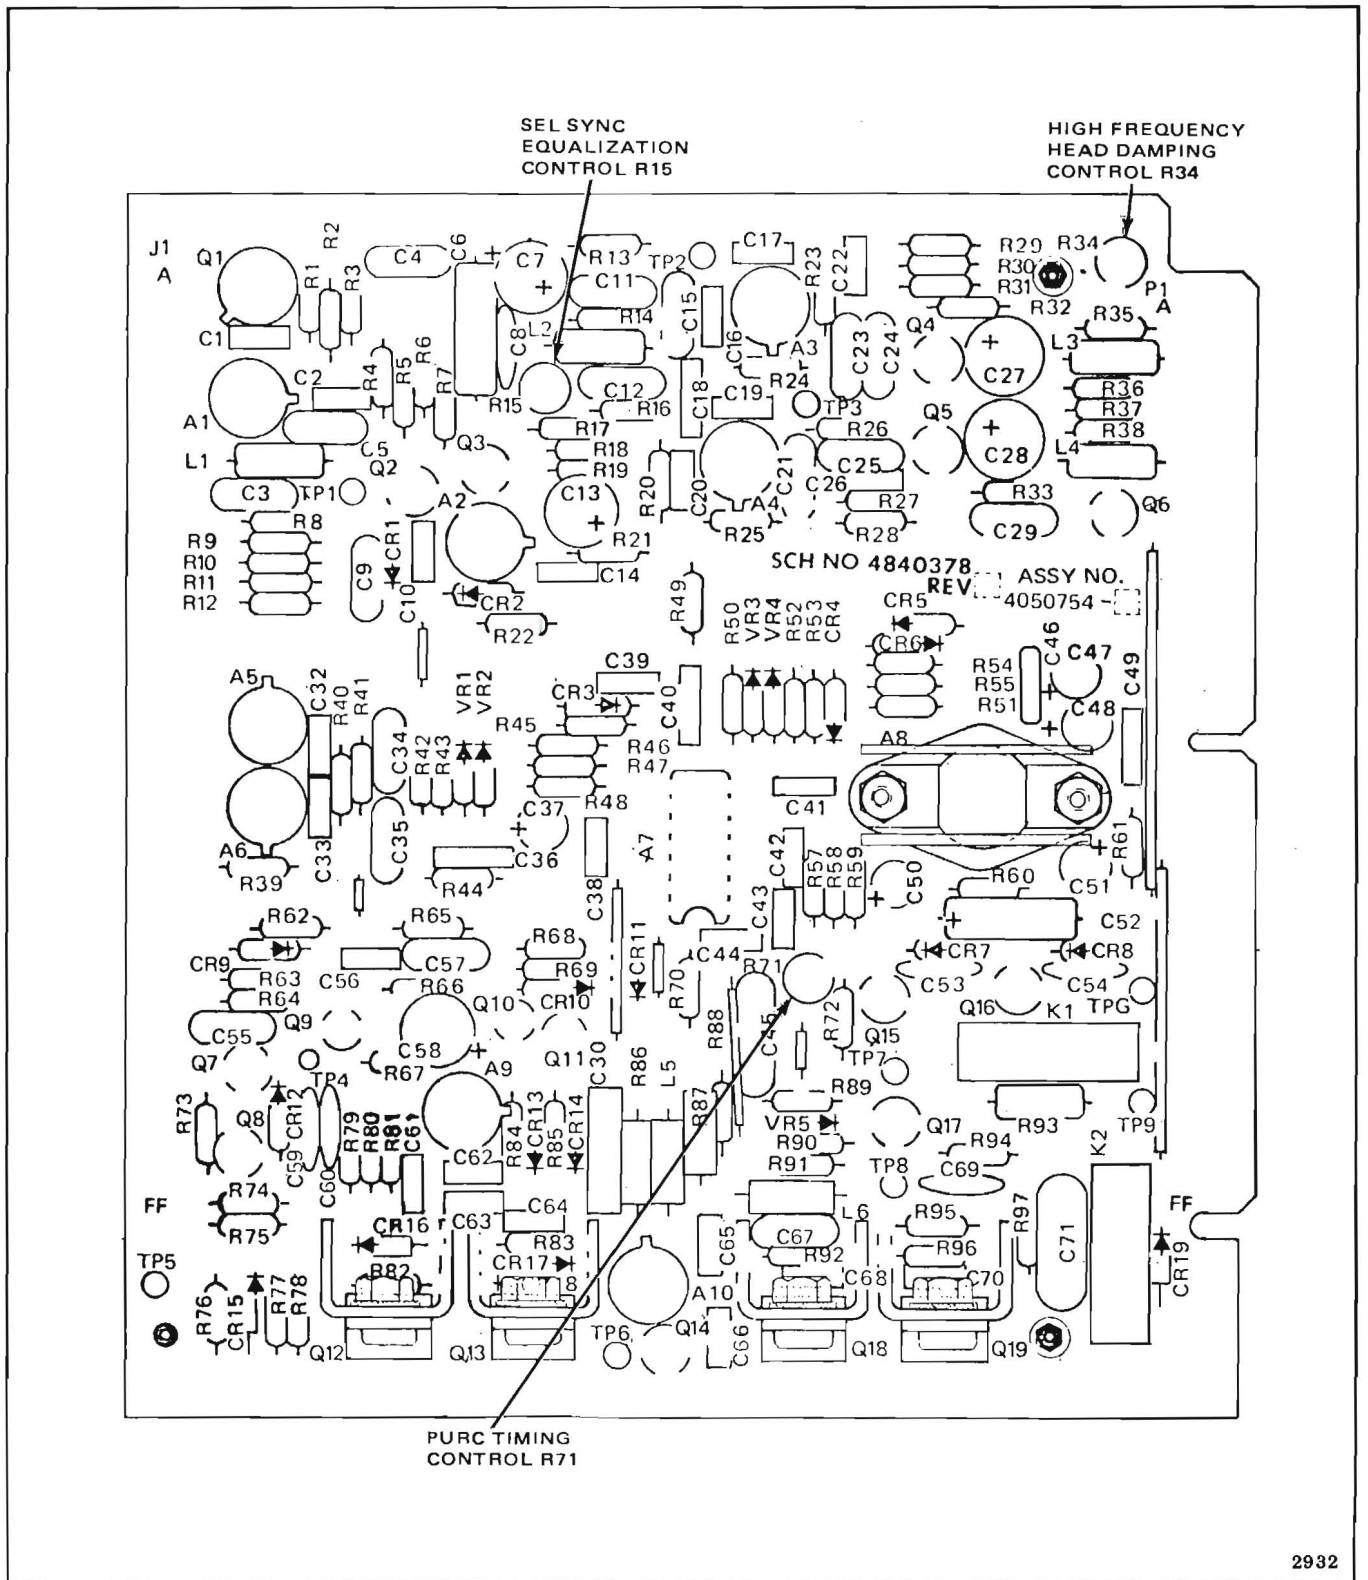

Figure 5-12. Main Audio PWA 1, 2, 3, or 4 – Alignment Controls
3. Set control R34 (Figure 5-12) to midrange. Reinstall PWA.
2. Set control R34 (Figure 5-12) to midrange. Reinstall PWA.